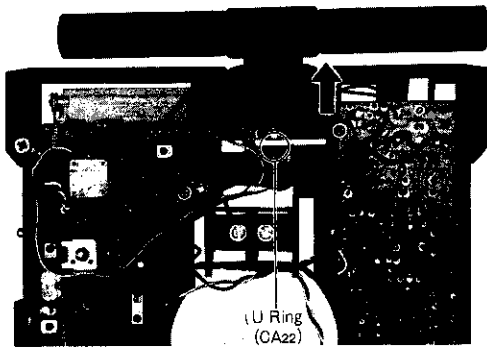

Fig. 8
- 1. Remove gyro antenna case U ring, as shown in fig. 8.
- 3. Remove the gyro antenna case in the direction of arrow, as shown in fig. 8.